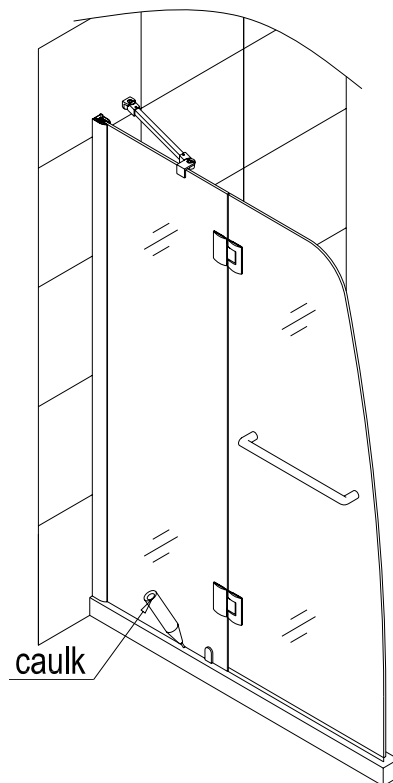

Fig. 8
7. Seal with caulk (recommended 100% clear silicone) inside and outside along the bottom of the stationary glass and between the wall and the wall profile. See fig. 8 for details.